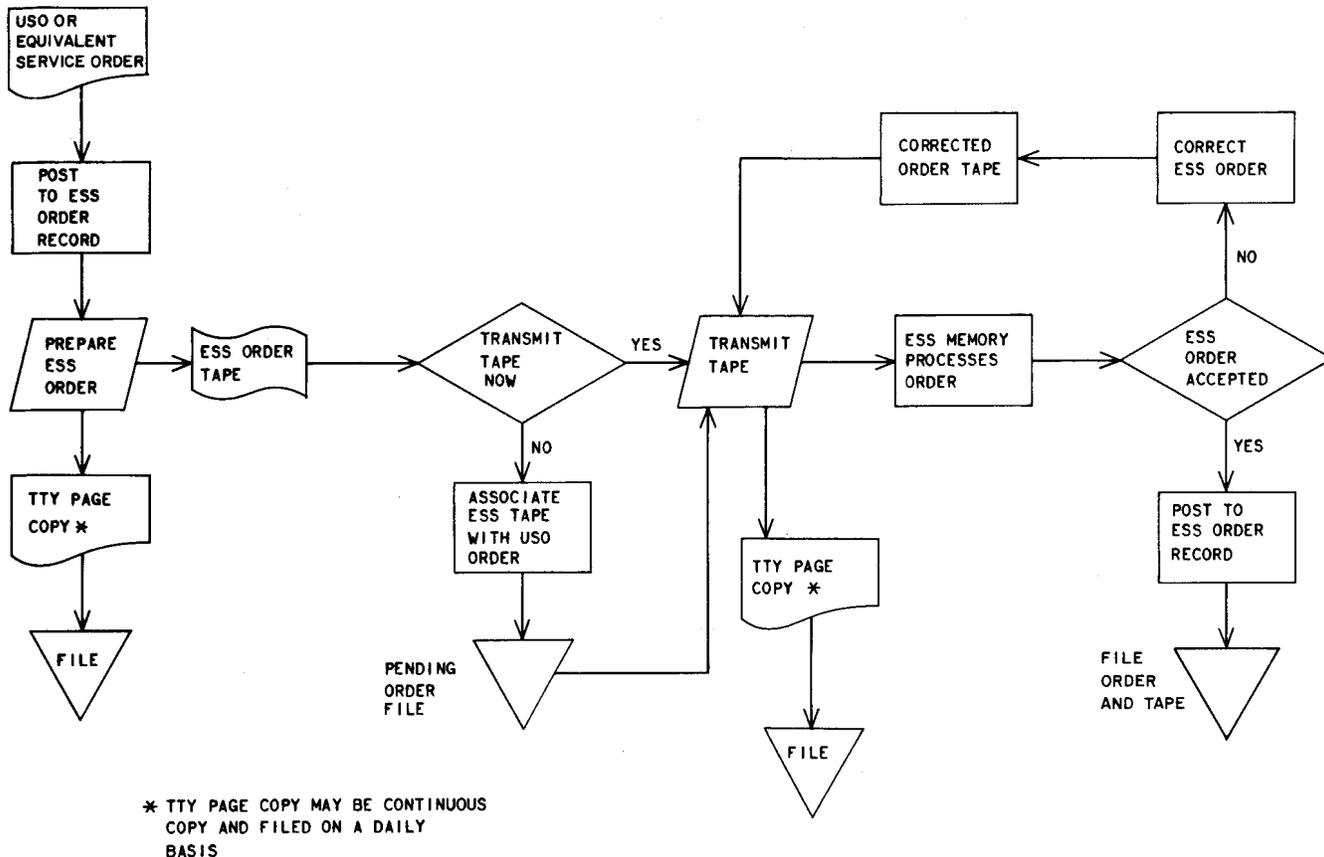

Fig. 9—Flowchart for Preparation and Processing of ESS Service Order and Tape
4.15 Reference should be made to Fig. 9 for a flow-chart for preparation and processing of an ESS order and tape.
F. Recent Change (RC) Audits